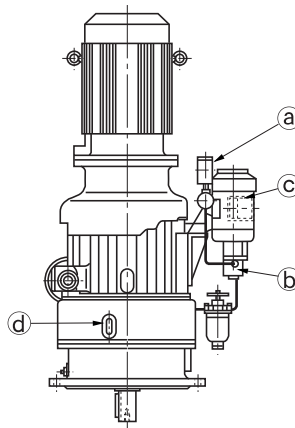

Fig. 10 Trochoid Pump Construction
- (1) Because forced lubrication by the trochoid pump is necessary for the models with trochoid pump system as in "8-2 Confirmation of Lubrication Method (page 17)", a separate power source should be prepared for the pump. (Refer to Table 6, 7 and Fig.10)